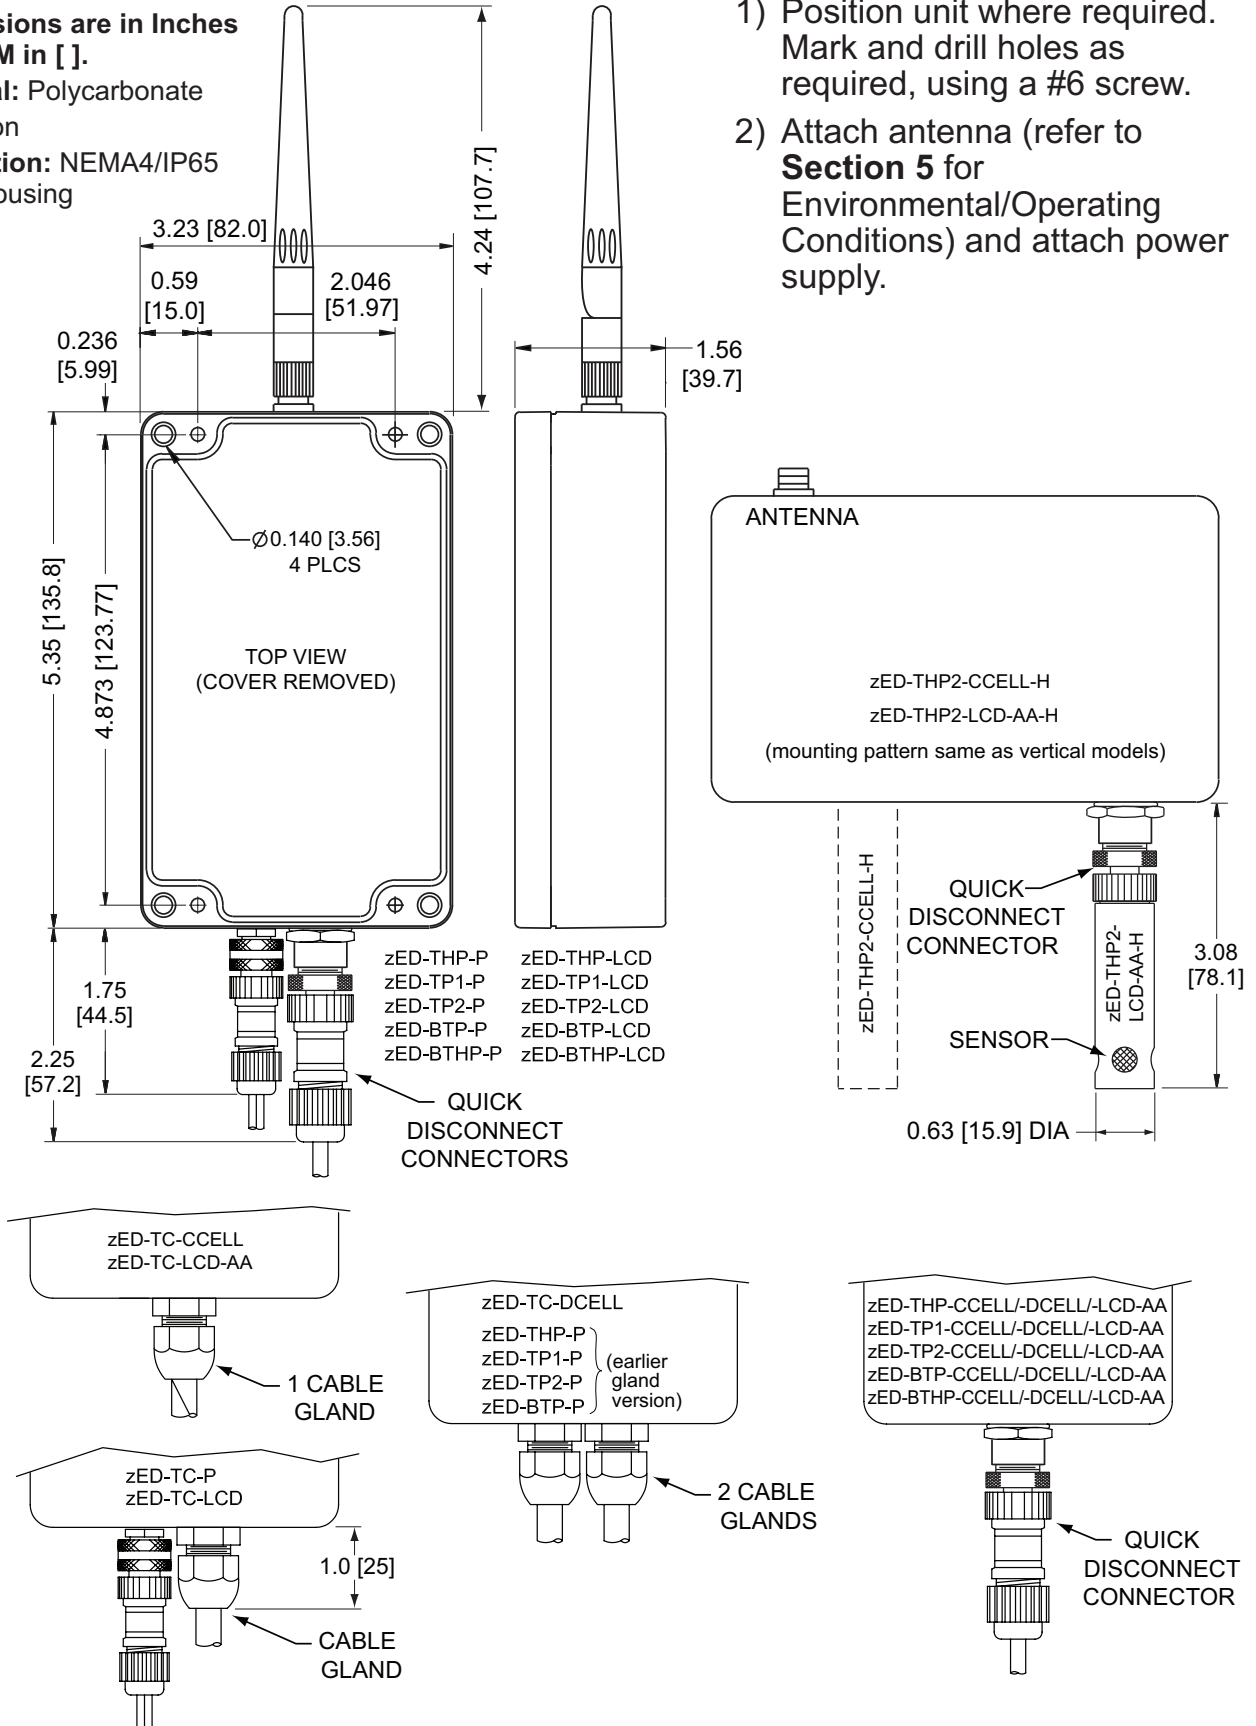

Figure 2.2a Mounting the End Device (zED-P/-LCD/-AA/-CCELL/-DCELL/-H)
| 11 | External probe/sensor, through cable gland (for zED-TC-x) or quick disconnect connector \triangle . Refer to Figure 2.2a for connector configurations. |
| 12 | External probe/sensor, through cable gland (for zED-TC-x) or quick disconnect connector \triangle . Refer to Figure 2.2a for connector configurations. |
| 12 | External probe/sensor, through quick disconnect connector Δ . Refer to Figure 2.2a for connector configurations. |
- To mount unit to wall. Refer to **Figure 2.2a** for mounting dimensions.